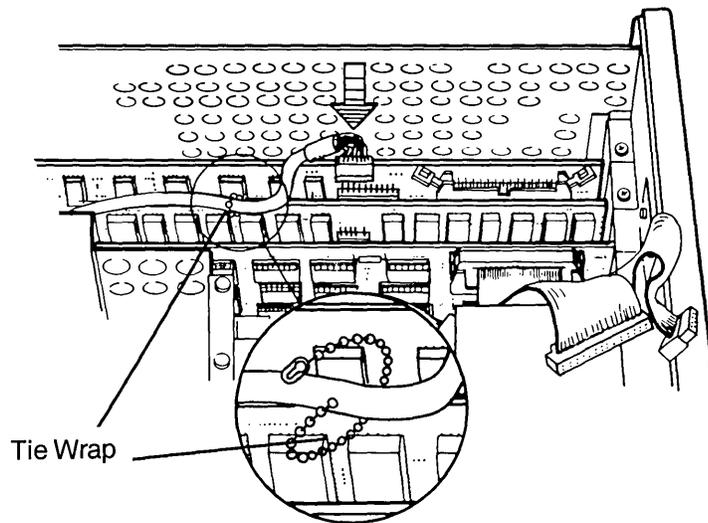

Figure 11-30. Connecting the VDU Cable to the VDU Adapter Board.
15. Connect the VDU cable to the VDU adapter board (see Figure 11-30). Replace the tie wrap to secure the cable to the board.